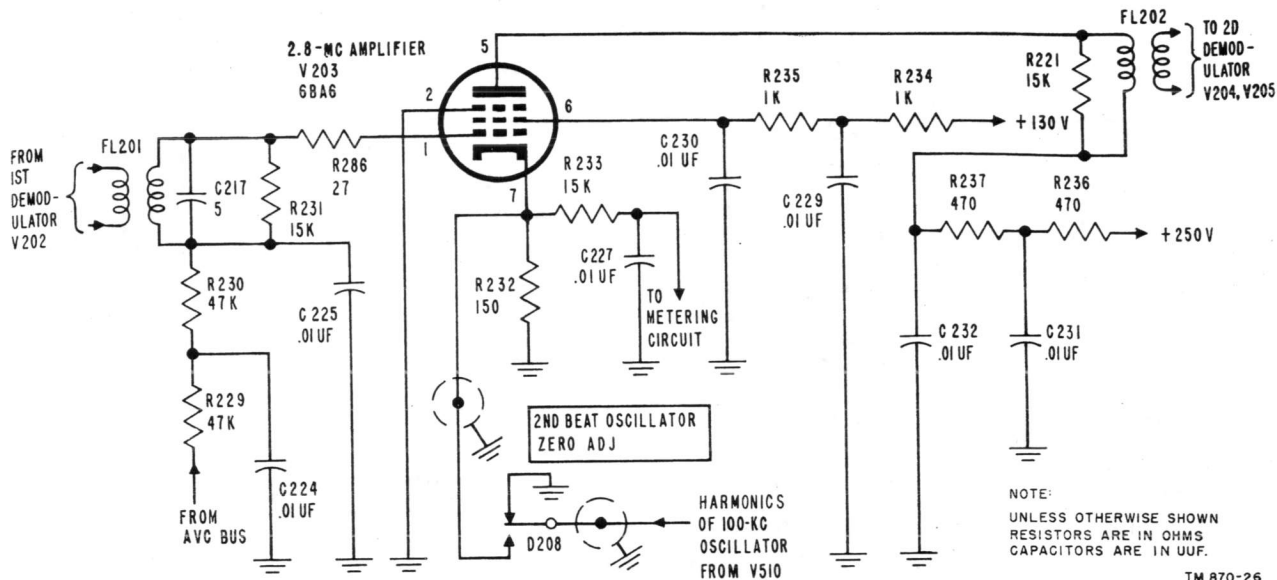

Figure 34. Amplifier, 2.8-mc, schematic diagram.
70. Amplifier, 2.8-mc (fig. 34)
c. The frequency of the oscillator is manually set by 2ND BEAT OSCILLATOR TUNING control C261. The 2ND BEAT OSCILLATOR ZERO ADJ capacitor, C260, enables C261 to be zero-set. In the preoperation test procedures (par. 30), 2ND BEAT OSCILLATOR TUNING capacitor C261 is set to the 0 position. The 2ND BEAT OSCILLATOR ZERO ADJ push button, D208 (fig. 34) is depressed to complete the path from plate 6 of V510, where the 28th and other harmonics of the 100-kc oscillator are present, to cathode 7 of the 2.8-mc amplifier. Although other harmonics of the 100 kc are present, they are attenuated by filter FL202 to such an extent that they may be disregarded. Thus, a 2.8-mc signal can be fed to the amplifier even if no other source of signal is available. The output of the 2.8-mc amplifier is fed to the second demodulator, where it mixes with a signal from the second beat oscillator. A difference in frequency of not more than 115 kc between the 2.8-mc signal and the signal from the second beat oscillator results in an audible beat note at MONITOR jacks J401 and J402, which monitor the receiver output. If the two signals are exactly 100 kc apart, the if. is exactly 100 kc and no audible sound is heard at